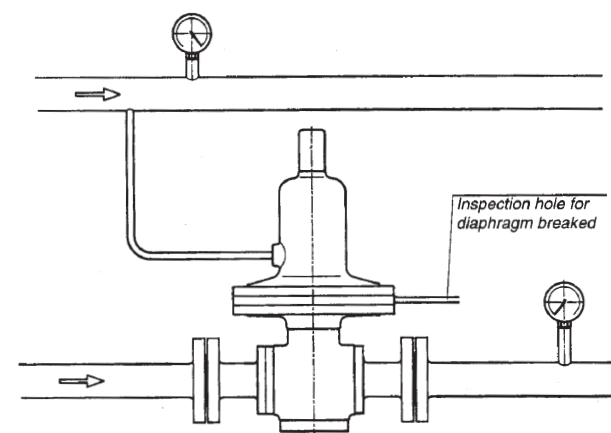

Fig. 13 Example of installation layout – Group 2 regulators: 172-50 Double Diaphragm
**Group 2 Regulators: 172-50 Double Diaphragm (Fig. 13)**